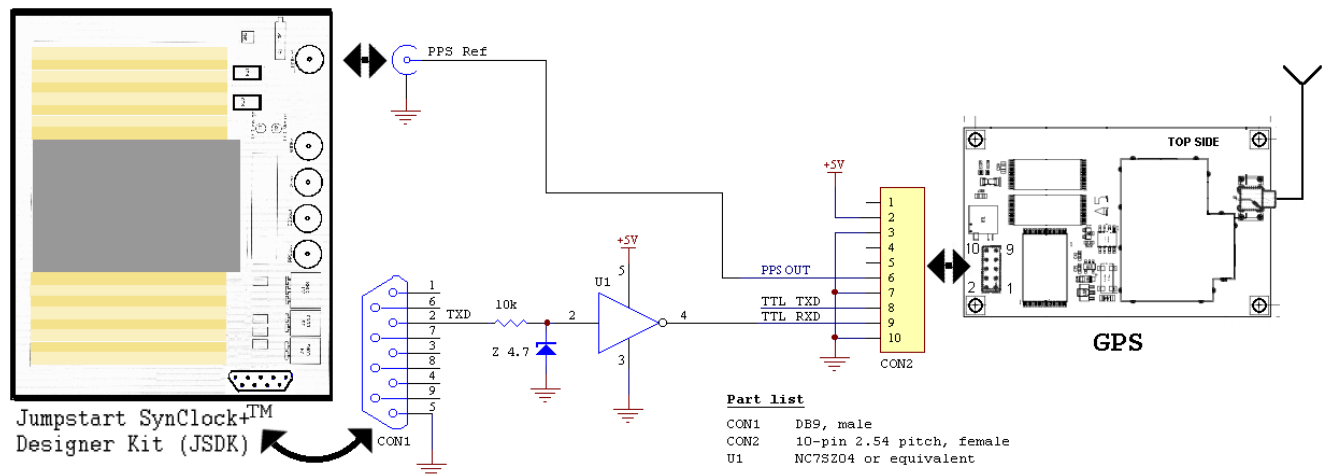

Figure 5 – Smart GPS/Jumpstart SynClock+® Designer Kit Interconnection
Figure 5 illustrates the Jumpstart SynClock+® Designer Kit (JSDK) interconnection interface, which allows communication to both the Smart SynClock+® and the GPS.
4. Remove the serial communication to the PC and set up the connection as illustrated in Figure 5.